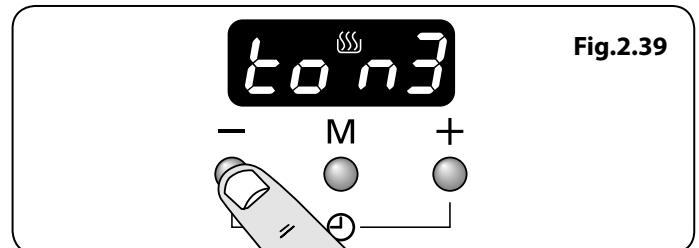

Fig.2.39
2. To select the tone press the [-] button until desired tone is reached (Fig.2.39).